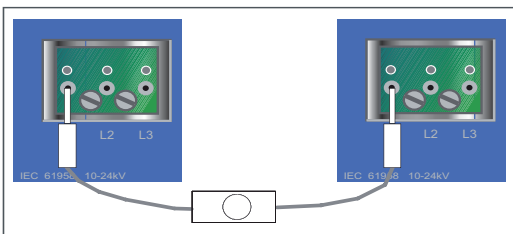

Fig. 9.8
- Checking phase coincidence of two panels: Connect the plugs of the phase comparator to the same phase connection points of two different VPIS devices (panels) (Fig. 9.8). The indicator must not light up. If the phases do not coincide, check the cable connection and, if necessary, exchange.
- After each operation, check the device once more (see item 1).